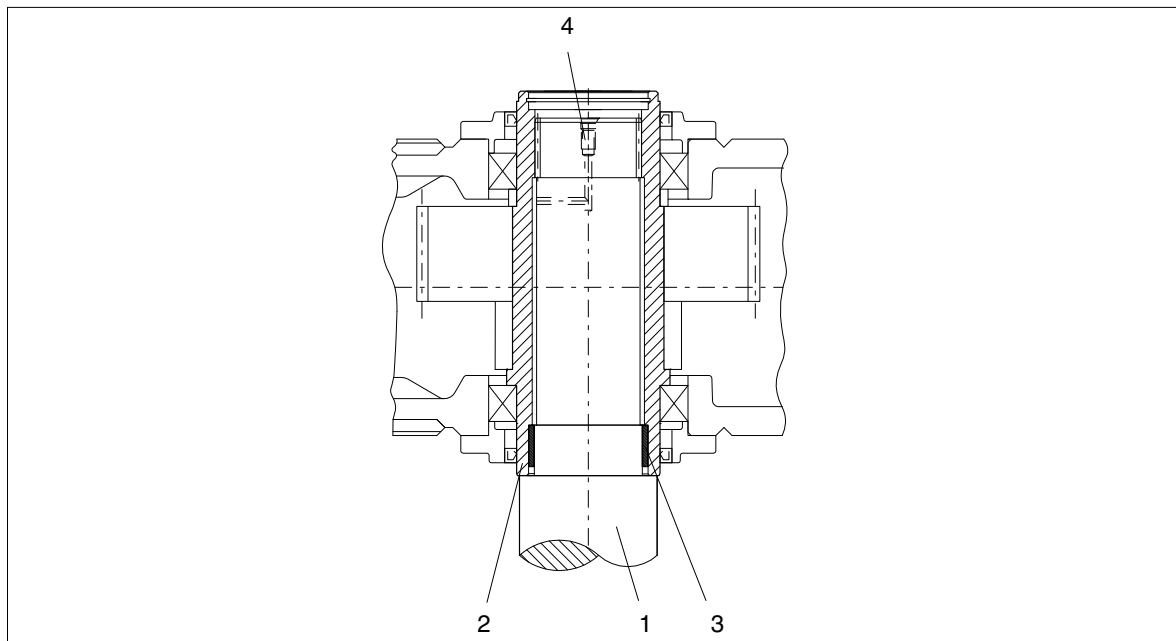

Fig. 55: Hollow shaft with internal spline, preparation
To facilitate demounting (see also item 6.7.3.), we recommend providing a connection for pressure oil on the end of the driven machine shaft. For this a hole must be drilled through to the hollow shaft bore (see figure 55). This connection may also be used for supplying rust-releasing agent.
- If frictional corrosion has occurred on the seating surfaces, rust-releasing agent may be used in order to facilitate forcing off the gear unit. The rust releaser can be injected through the pressure-oil connection (see figure 55), e.g. using a pump.